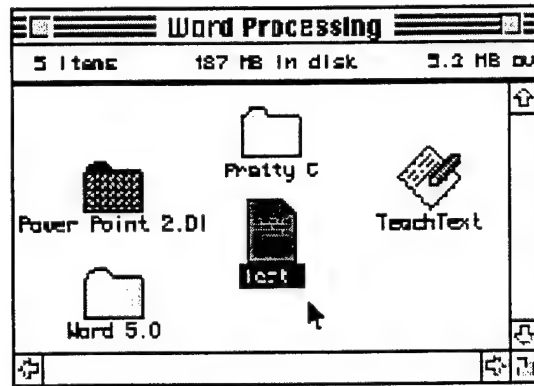

Figure 2.8: Word Processing window now contains a new file, called **Test1**
6. Now quit the program by choosing the **Quit** command from the **File** menu. A new file, called **Test1** will appear in the **Word Processing** folder as shown in Figure 2.8.